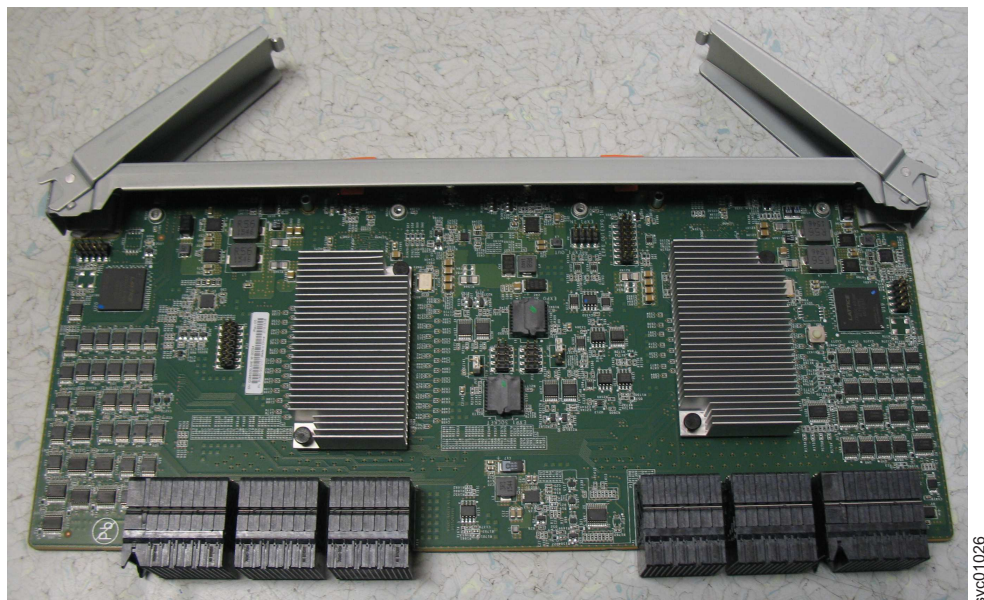

Figure 85. Open the secondary expander module handles
- 3. Rotate both handles on the new secondary expander module to an open position, as shown in Figure 85.